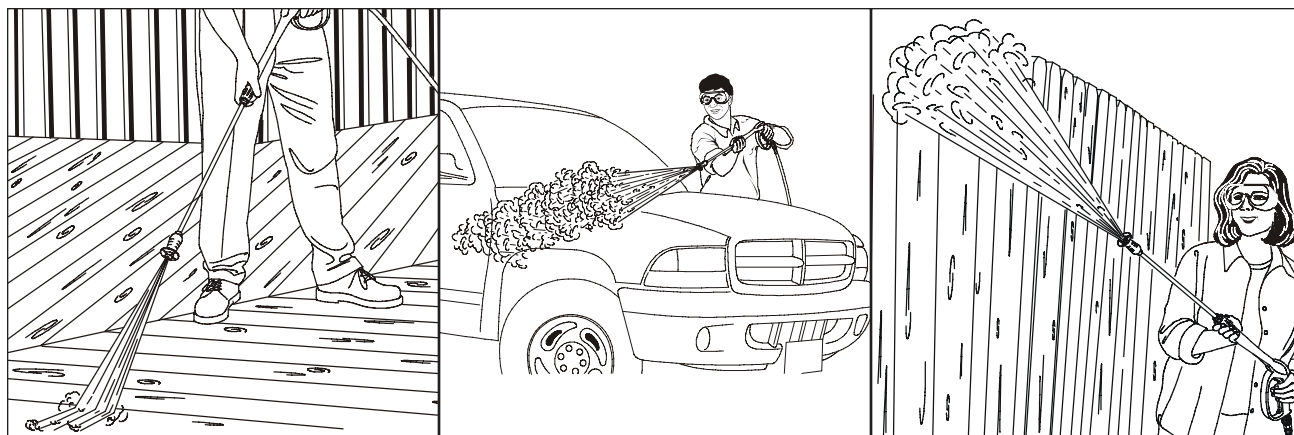

Figure 15 - Power Washing a Deck, a Vehicle, a Fence
5. Pull the adjustable nozzle backward (for 2300 and 2500 PSI units) until it locks in place or rotate the dual nozzle extension handle (for 3000 PSI unit) fully clockwise to obtain cleaning spray. Chemical will not flow with the cleaning spray. Select and attach the red or yellow nozzle (for 3000 PSI unit). Scour the surface with the high pressure water stream (Figure 15). Adjust PRESSURE CONTROL as described on Page 10 to obtain desired water pressure.